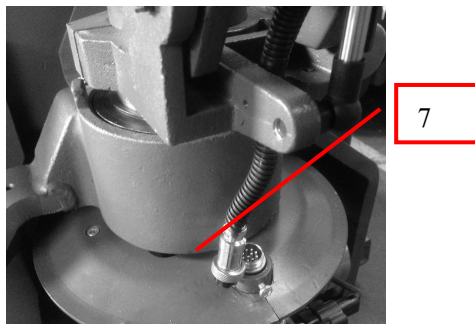

Fig.19
- (Fig.19) Insert the wiring harness connector 7 of the handle after aligning;